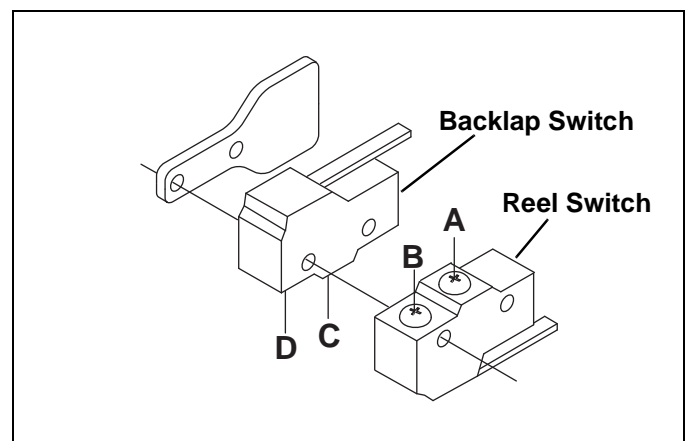

Figure 4N
1. Check and make sure switches are wired correctly. Refer to **Figure 4N** and labels attached to wires for correct terminal placement.